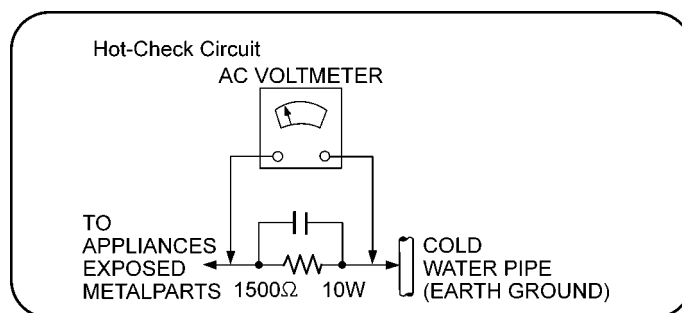

Figure 1-1
2. Connect a $1.5k\Omega$, 10 watts resistor, in parallel with a $0.15\mu F$ capacitors, between each exposed metallic part on the set and a good earth ground such as a water pipe, as shown in Figure 1-1.